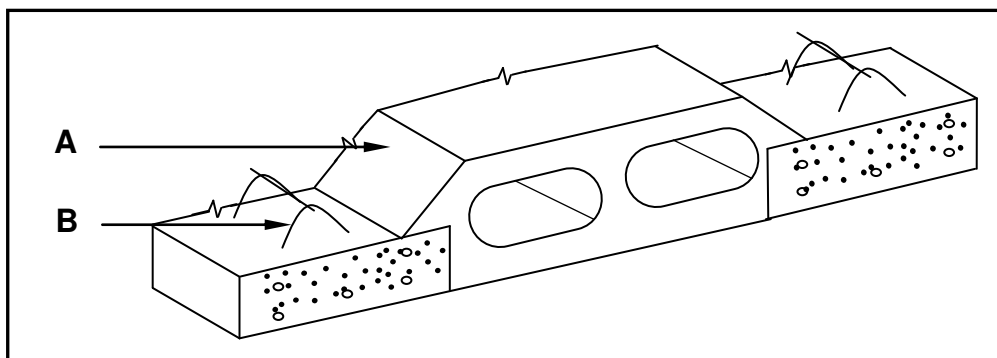

FIGURE 4.4
- 4.4 FIGURE 4.4 below shows a part of a rib and block floor. Study FIGURE 4.4 and answer the questions that follow.